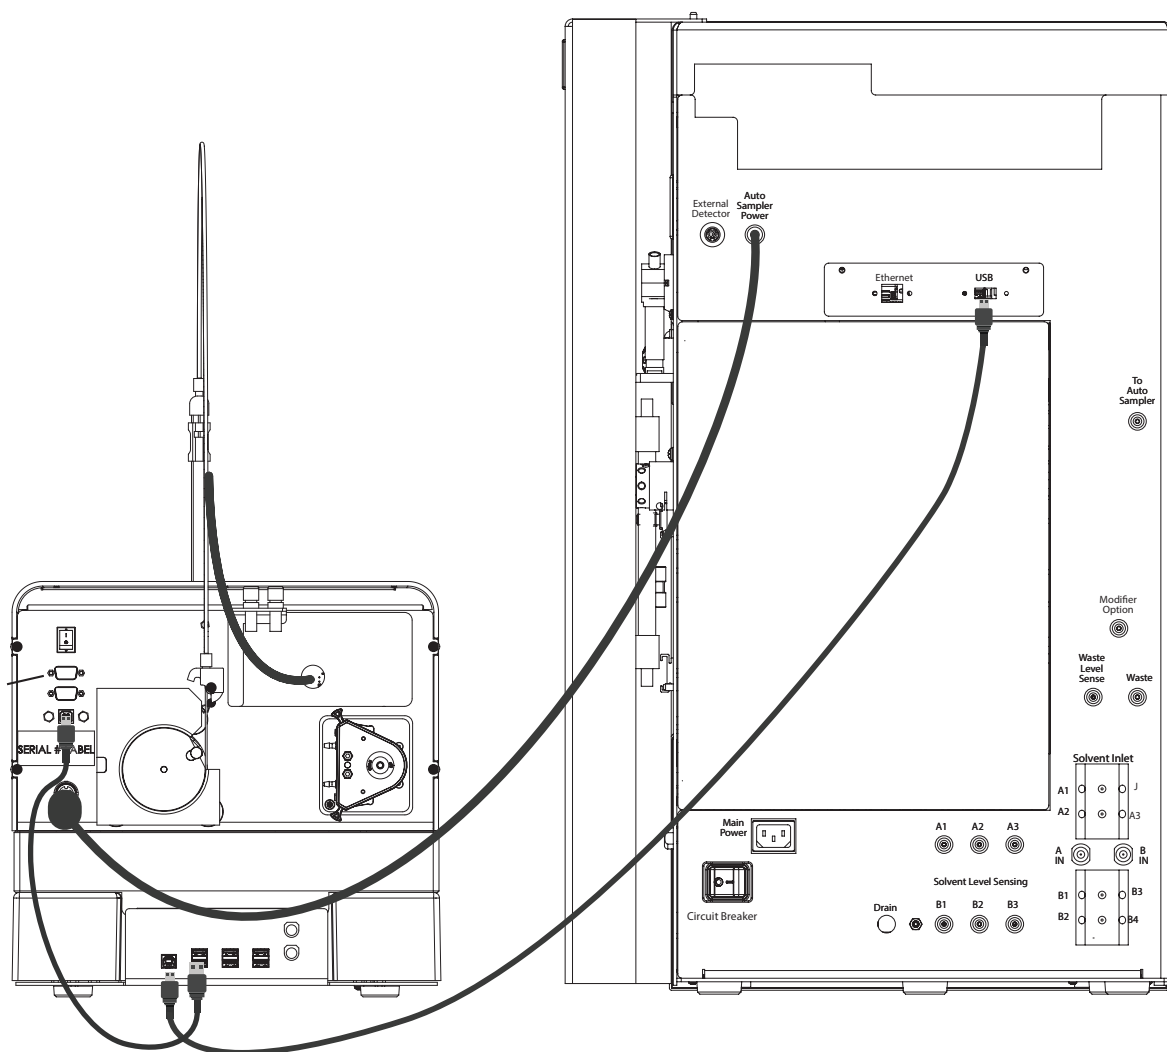

Figure 2-23 Diagram of the AutoSampler and ACCQPrep USB connections
12. Connect the long USB cable (provided) from the USB-A port on the back of the ACCQPrep to the USB-B port on the lower portion of the back panel on the AutoSampler Module (Figure 2-23).
13. The short USB cable connecting the USB-B port on the top portion of the back panel of the Autosampler Module to the USB-A port on the lower portion of the back panel of the Autosampler Module should already be pre-installed. If not, make connection as seen in Figure 2-23.